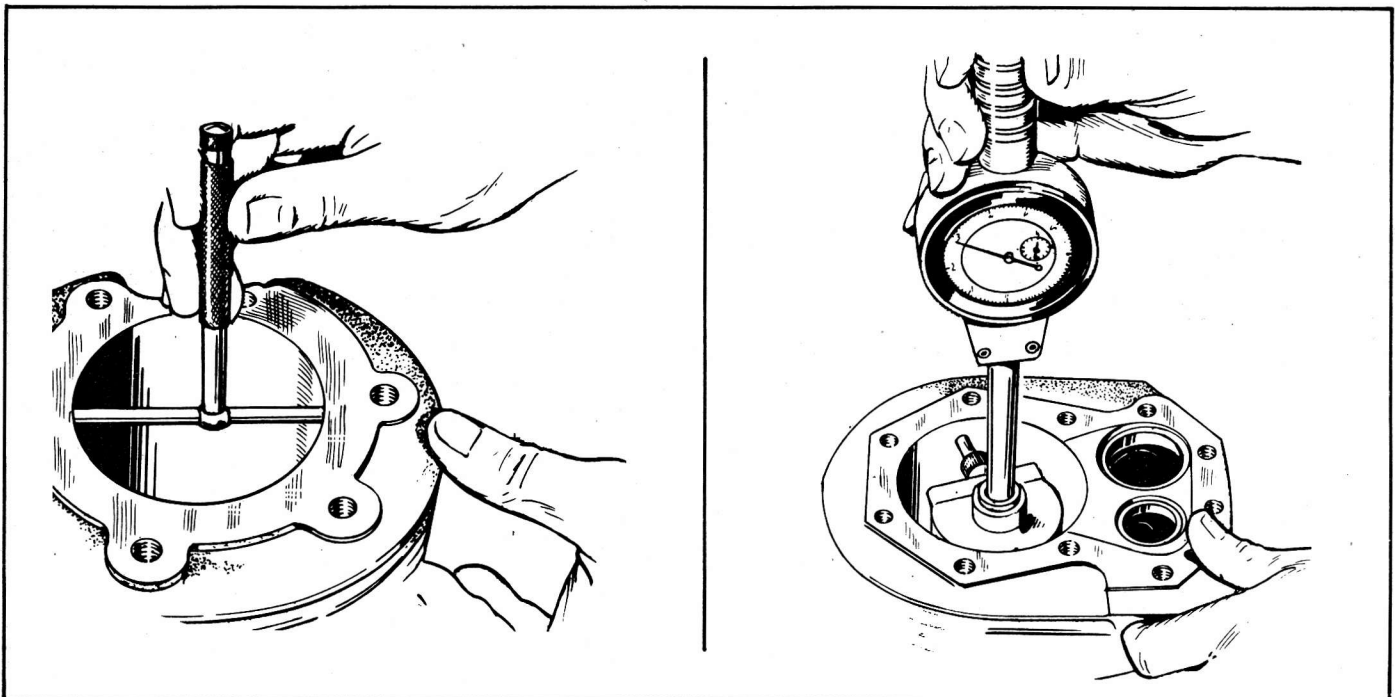

FIGURE 23. METHODS OF CYLINDER INSPECTION
3. Check the cylinder bore for taper, out of round and wear with a cylinder bore gauge, telescope gauge or inside micrometer (Figure 23). These measurements should be taken at four places — the top and bottom of piston ring travel.